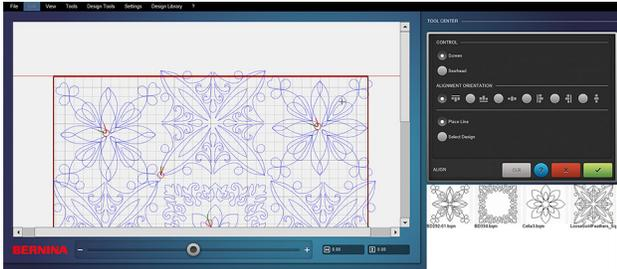

Fig. 76
2. The Place Line option is active. Place a line at the top of the quilt grid layout (Fig. 76). You may place the line as many times as needed. It appears as a thicker red line on the screen.